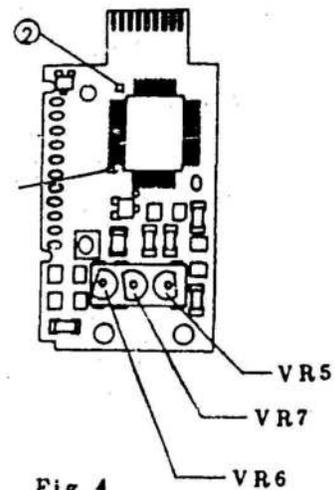

Fig 4
- 8.2 Measure the output at #1 (Fig. 4) and adjust VR 7 until the output (V AV) is equal to VC (±2mV). (This is V AV9.)
- 9.3 Another method is to check the voltage (V TV) at Fig. 4 #2.
When E1 (measured at SV ckt. board) is 3.50V and the battery check is on, the output at #1 (Fig. 4) is $1.108 + 30mV$.
11. EV Mode Fig. 4 #1 Output
With the dedicated flash inputs (|AV|, EF), the output at #1 (Fig. 4) should be as shown.
- 12.2 Set the light source to EV 12 and adjust VR5 (Fig. 4) so the meter needle is at $f/8 \pm 0.3f$.